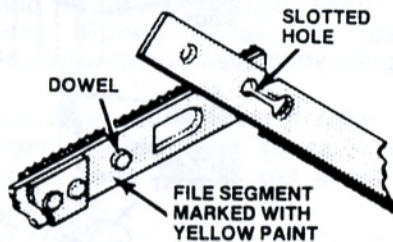

FIG. 48. JOINING THE FILE BAND.
- (1) Place file band around wheels and insert one end through table center plate. Cutting edges should point down. File band length is 153-inches (3885 mm).
- (2) Hold yellow lock rivet segment in left hand. Depress spring steel band tip held in right hand.
- (3) Allow rivot head to slip into slotted hole and slide into slot's small end.
- (4) Straighten band to allow spring steel end to snap over dowel. See Fig. 48.